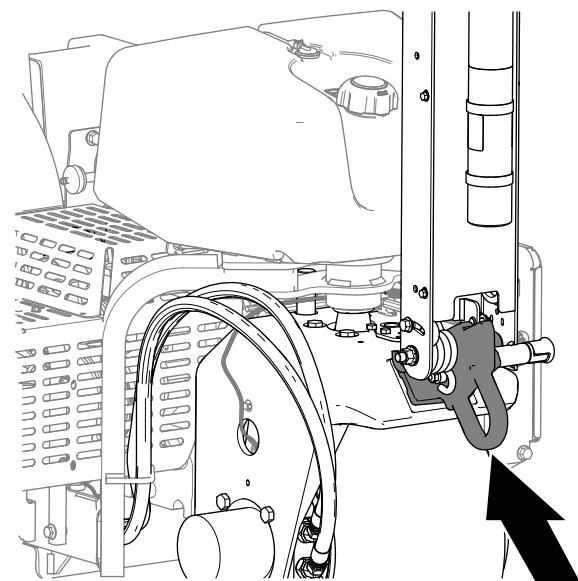

Figure 117
6. If you tow the machine, pull it using the front tie-down hoop (Figure 117).